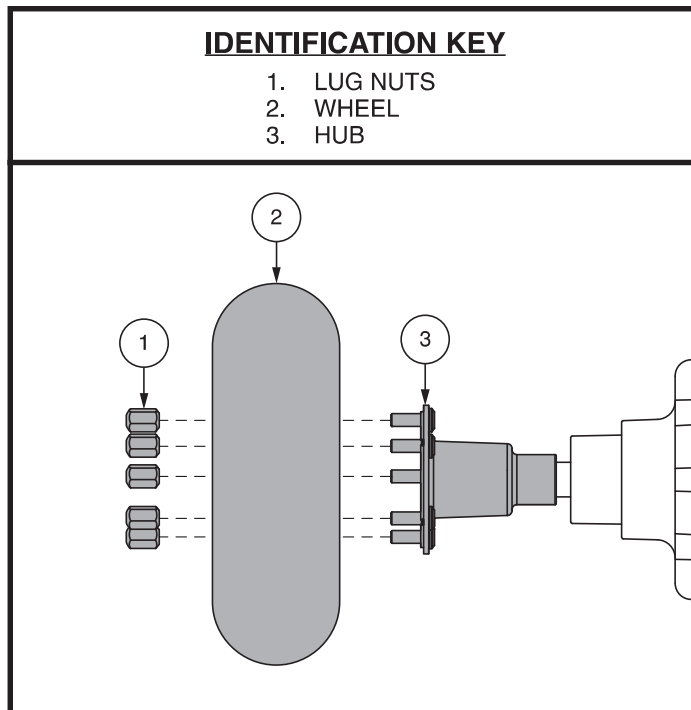

Figure 29. Wheel Replacement
4. Remove the lug nuts from the hub. **See figure 29.**